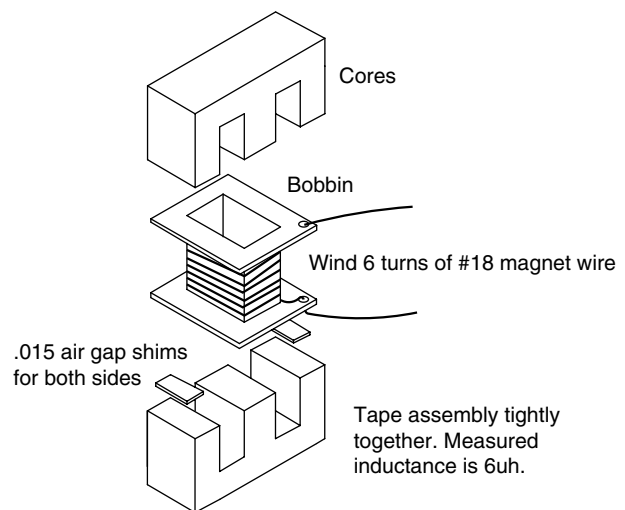

Figure 8-4 Inductor L1 assembly.
3. Assemble inductor L1 as shown on Fig. 8-4; it also can be purchased from our website (www.amazing1.com; Part # 6UH). To make this yourself, wind six turns of No. 18 magnetic wire around the bobbin. Use 0.015-inch air-gap shims on both sides of ferrite cores (as shown in Fig. 8-4); the easiest way to do this is with a strip of Mylar tape. Once this is in place, tape the entire assembly tightly together.